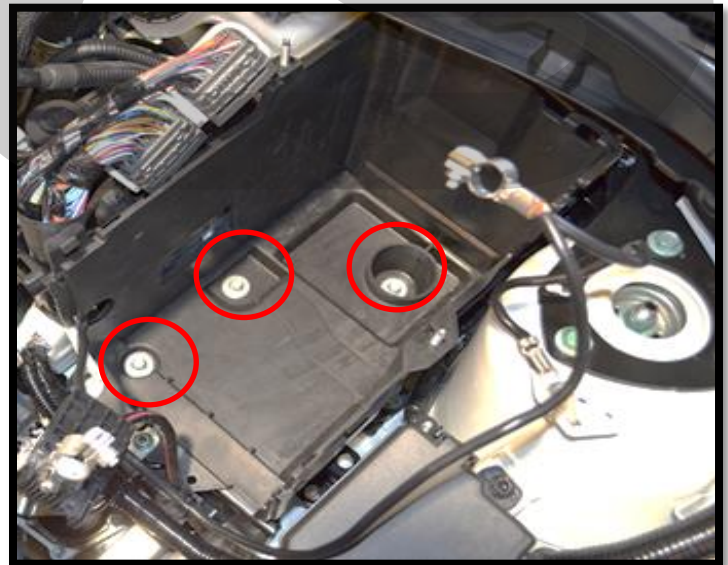

Figure 2e
- g) **Remove the battery box.** Remove the three 10mm bolts in the bottom of the box, and remove the battery box and ECU (**red circles** **Figure 2e**).